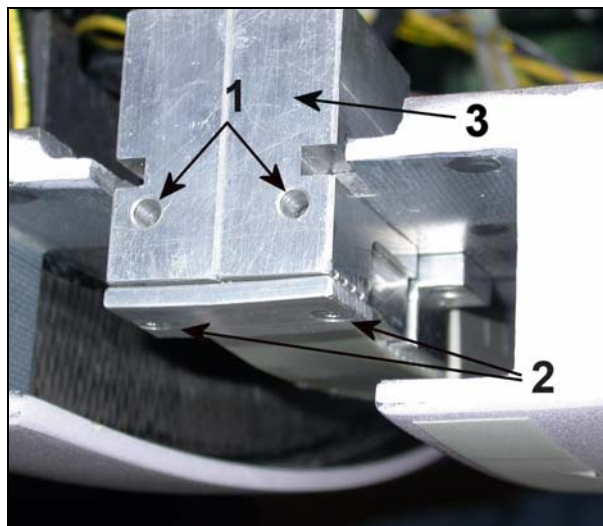

Fig. 10
- Release the two tension screws on the image intensifier side (1/ Fig. 10); the tension on the toothed belt is released.
- Unscrew the two mounting screws (2/ Fig. 10) of the clamping plate. The toothed belt is released.
- Loosen the two screws (1/ Fig. 10), and remove the clamping piece (3/ Fig. 10).